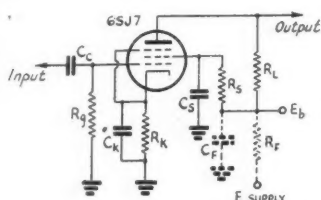
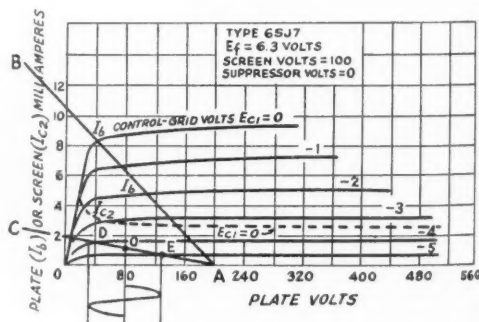

Fig. 3 — Pentode resistance-coupled amplifier circuit.
Fig. 4 — Plate-voltage vs. plate-current characteristic curves for the Type 6SJ7 pentode tube.
for a selected plate-supply voltage. As an example, in the circuit of Fig. 3 a supply voltage of 200 ( $E_b$ ) is assumed. Since the maximum value of 200 volts is applied to the 6SJ7 plate only when no plate current flows, one point on our load line is certain to be at point A, shown in Fig. 4, where the plate current is zero and the plate voltage 200. From point A, load lines of various slopes may originate; the lower the plate load resistance, the steeper the slope. Since, as in the previous example, we are only interested in obtaining a large plate-voltage variation with a minimum variation in plate current, the slope of our load line should be as far down on the curves as possible and still accommodate the complete grid swing without running into the distortion region. Therefore, two typical load lines were drawn on the curves shown in Fig. 4. The load line AB represents a load resistance of 13,000 ohms which provides for a 5-volt grid signal without distortion, while load line AC represents a load of 110,000 ohms which provides for a 1-volt signal. Load-line AC would be the most common, since the 6SJ7 is a high-gain pentode which is designed to amplify small input signals to a much higher level.
11) The total plate-voltage swing as determined by the perpendiculars of Fig. 4 is  $130 - 30 = 100$  volts. From the ratio,  $\frac{106,400}{110,000}$ , we know that 97 per cent of the output voltage or 97 volts peak-to-peak appears across the plate resistor. Since a 1-volt peak-to-peak signal is applied at the grid, the stage gain is  $\frac{97}{1} = 97$ .